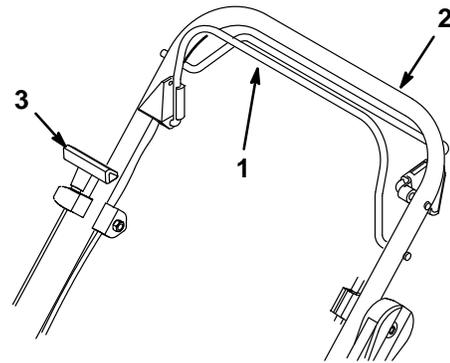

Figure 10
3. Hold the blade control bail against the upper handle (Fig. 10).
4. Pull the starter handle lightly until resistance is felt, then pull it sharply (Fig. 10). Let the rope return to the handle slowly.